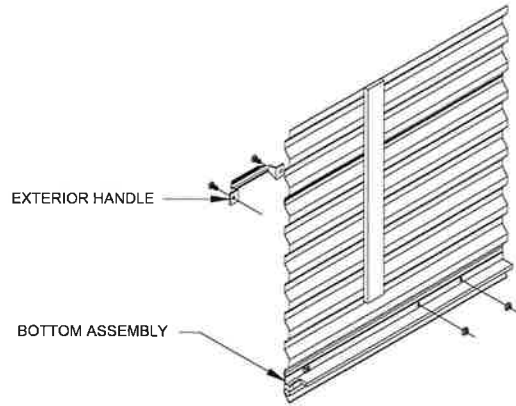

Figure 9.
9.2 Exterior Handle/Step Bar: Attach the handle to the bottom exterior edge of the door with two (2) 1/4" carriage bolts and whiz nuts provided. See Figure 9.